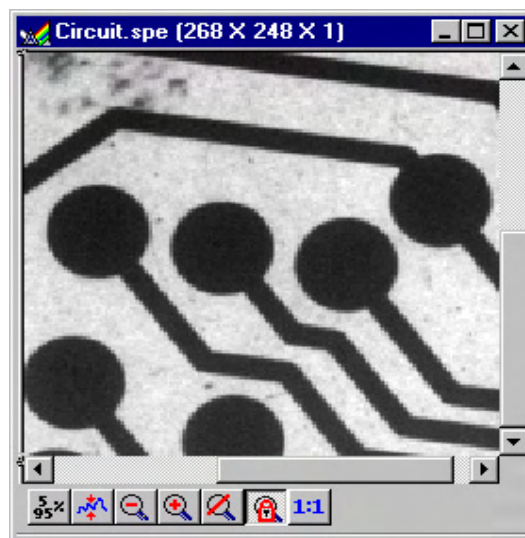

Figure 105. *Circuit.spe* Expanded to show Defined Region
2. Click on the  (Zoom In) button. The view will change so that only the selected region is displayed as shown in Figure 105.